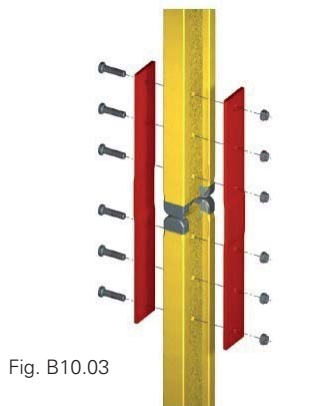

Fig. B10.03
3. Connect both parts of the splice and tighten with 6 Bolts M20x80 and 6 Nuts M20-8-VZ.(Fig.B10.03)